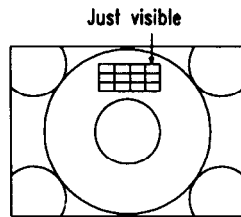

Fig.2
5. Press key "+" or "-" on REMOTE HANDSET to change the value of S-B until eight and half of portions indicated in Fig.2 is just visible.